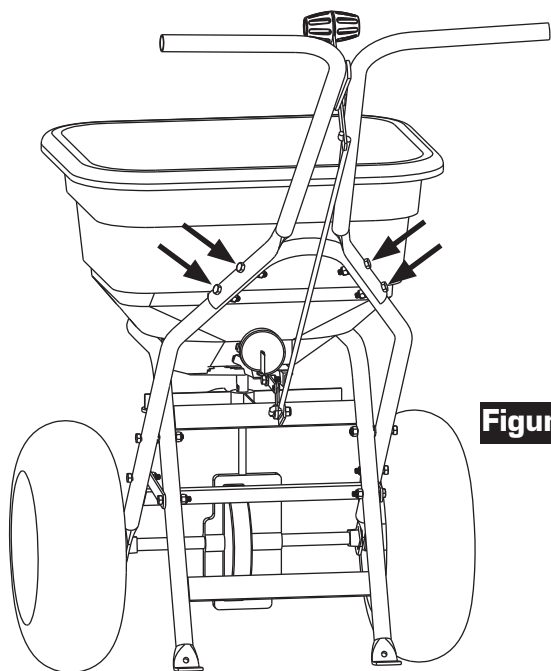

Figure 10
10. Attach Handle Assembly to Frame using (4) 1/4 x 1-3/4" Bolts and 1/4" Nylon Locknuts as shown in Figure 10.